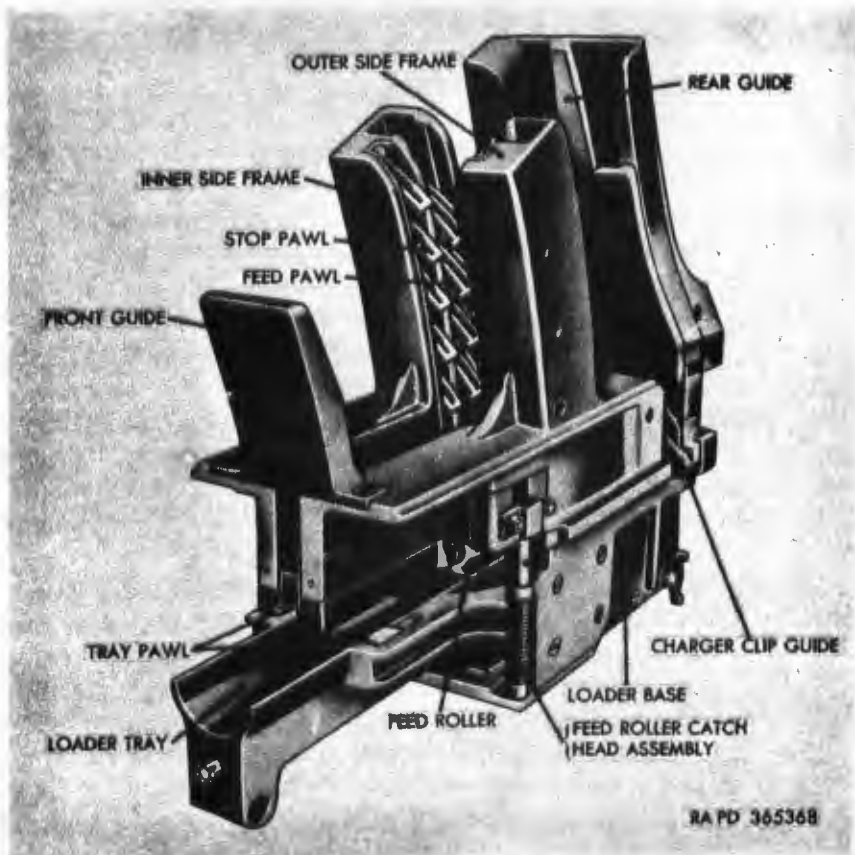

Figure 313. Left automatic loader assembly—front view.
a. Description (figs. 313 and 314).
- (1) The automatic loader is both a cartridge magazine and a